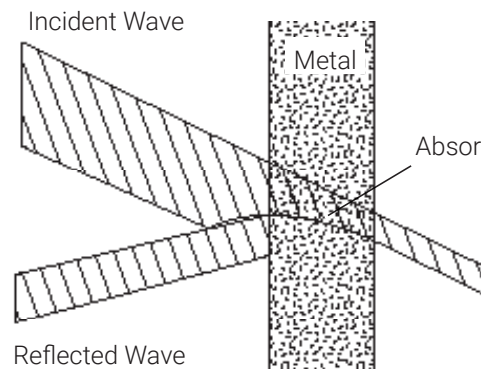

Figure 17
A model often encountered for an infinite shielding wall is the transmission line model given in figure 17. When an electromagnetic wave encounters a metal wall, some of the energy is reflected and some passed into the metal. At the other side of the wall, a similar process again reflects part of the transmitted wave and passes the rest. This final wave which emerges from the inside of the wall in relation to the original incident wave on the outside is called the shielding effectiveness (SE).